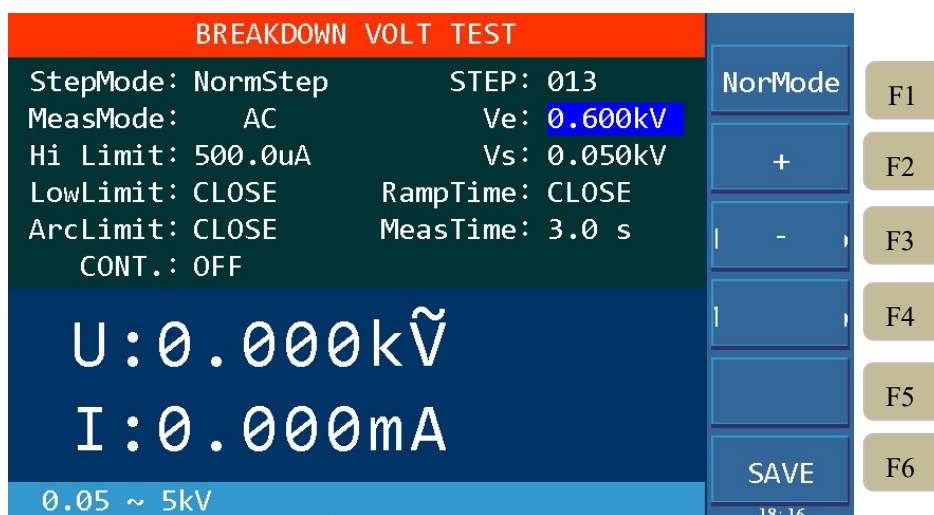

Figure 4-23
4. Start the test after setting is completed. As shown in Figure 4-23.